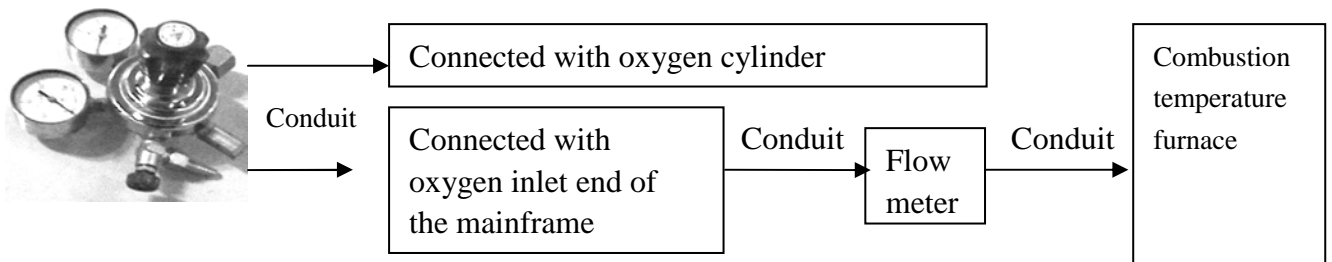

Fig. 3-10
- 2) Install the Combustion temperature furnace gas supplying system as shown in Fig.3-10 Circuit Diagram: This gas supplying system needs to be used when ASTM Ash test with oxygen is adopted.